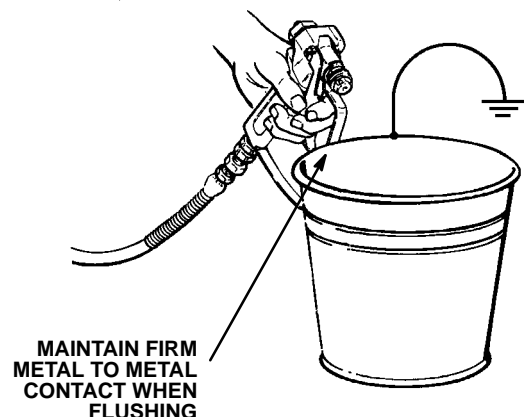

Fig 13–1
6. Hold a metal part of the gun firmly against a metal waste container. See Fig 13–1. Hold the trigger open, turn the sprayer ON, and slowly increase the pressure setting until the sprayer starts. Keep the gun triggered until all air is forced out of the system and the solvent flows freely from the gun. Release the trigger and engage the gun safety latch. This procedure helps reduce the risk of static sparking and splashing.